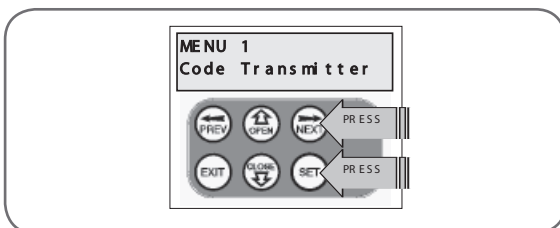

fig 31
1. Press NEXT to navigate to Menu 1 (Fig. 31).